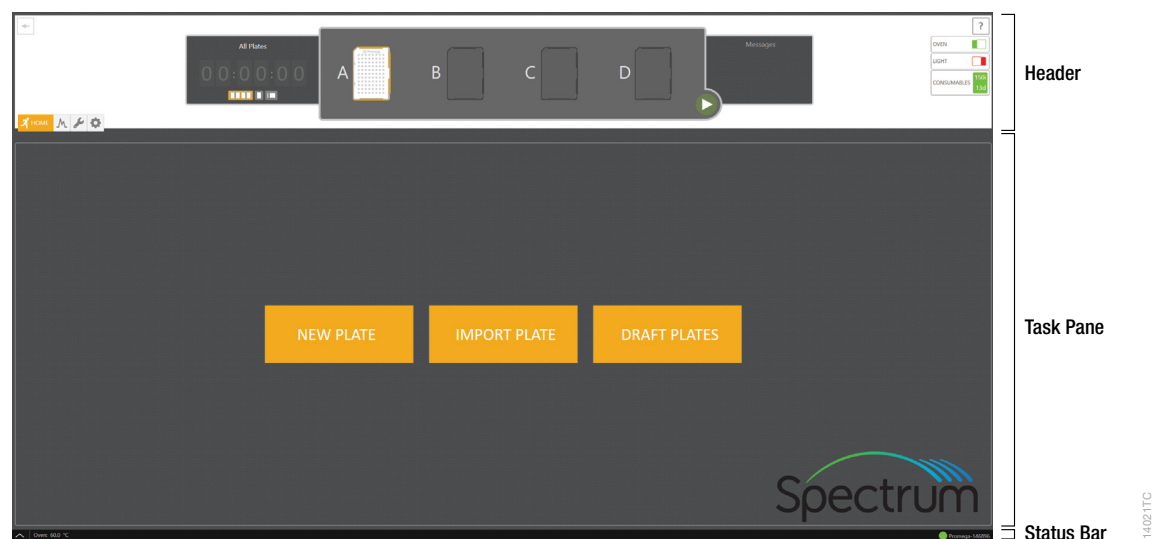
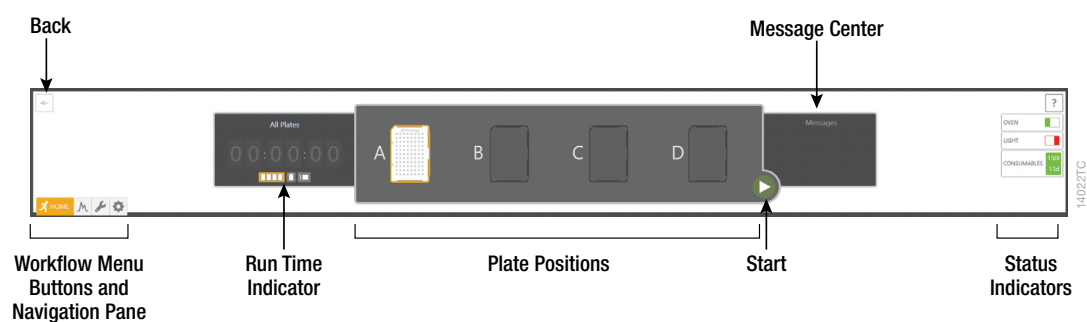
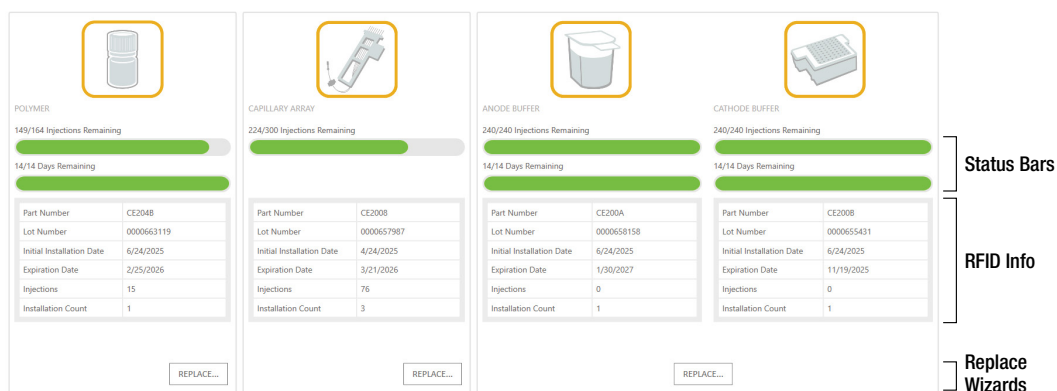

Figure 9. Spectrum Control Software 'Home' screen.
Figure 10. Header.
Figure 11. 'Consumables' screen.
Open the Spectrum Control Software (SCS). The 'Home' screen appears upon launch (Figure 9), providing access to four workflow menus (Home, Review Plates, Maintenance and Settings; see Figure 10) and status indicators. The screen is divided into three sections: Header, Task Pane and Status Bar.
The Header (Figure 10) is fixed and remains available to the user throughout all navigation processes. This area contains Status Indicators, Message Center, Start Button, Run Time Indicator and Workflow Menu. The Header also shows the status of the plate positions within the Plate Drawer.
Before starting a run, ensure all consumables are installed and in sufficient supply. For best results, use unexpired reagents that are within the recommended use range. Refer to the 'Consumables' screen (Figure 11) to determine if any consumables need to be replaced. To access the 'Consumables' screen, select the Consumables status indicator in the Header on the SCS screen (Figure 10). The 'Consumables' screen (Figure 11) displays information for the four RFID-tagged consumables on the instrument: Polymer, Capillary Array and Anode and Cathode Buffers.
Select **Oven Heater Indicator** in the Header (Figure 10) to start preheating the oven to 60°C. The oven temperature will be displayed in the status bar at the bottom of the screen and the indicator will change from red to green when the oven preheating is complete.
On the 'Home' screen, there are three options displayed for plate setup: New Plate, Import Plate and Draft Plates (Figure 9).
3. Confirm the drawer handle light is illuminated, indicating that the drawer is unlocked and ready for plate loading. Alternatively, check the Message Center to verify that the drawer is unlocked. The Drawer Status indicator is in the Message Center located in the Header (Figure 10).